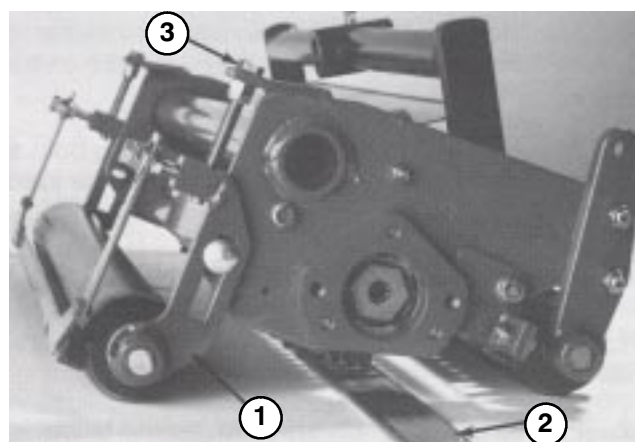

Figure 1
ADJUSTING REEL BLADES FOR POSITIVE SETTING (Above ground) (Fig. 1)
2. Loosen the (2) locknuts on carriage bolts securing rear roller brackets to dethatcher frame (Fig. 1).